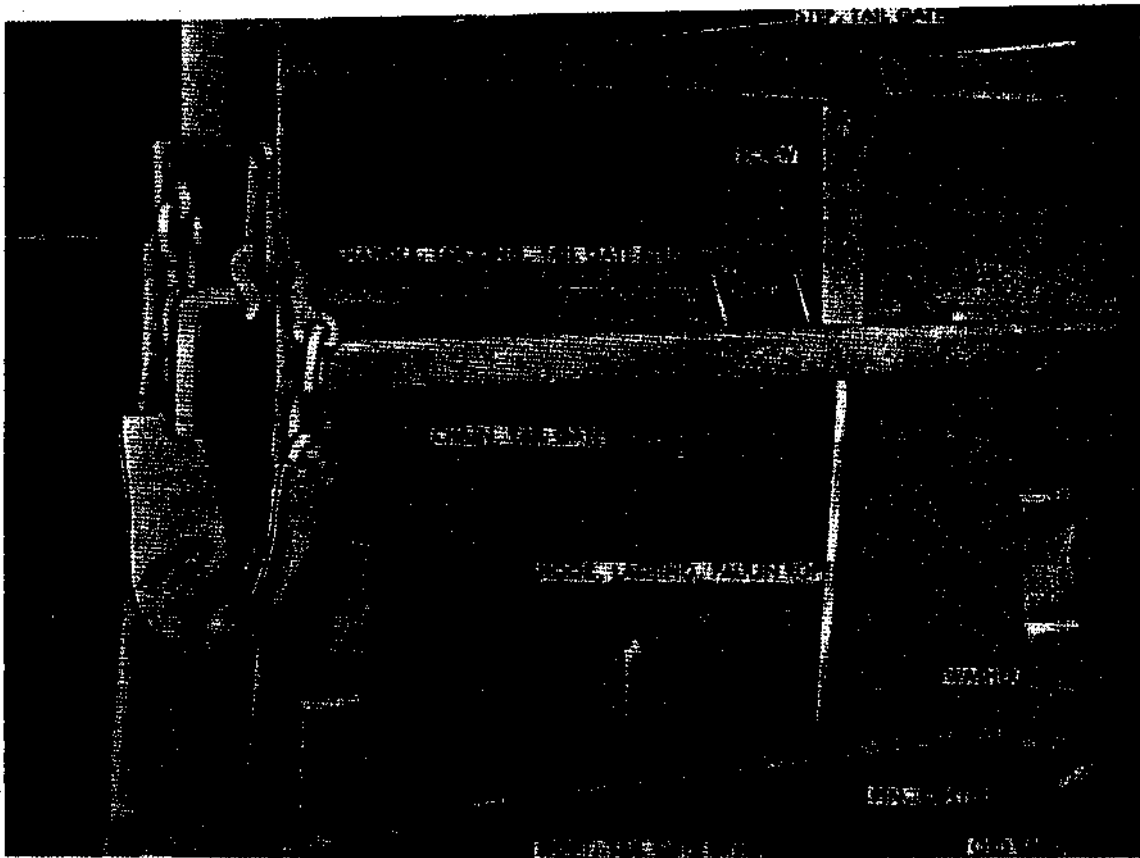

Figure 60. Tailgate assembly
e. Tailgate Assembly (Fig. 60). Unhook tailgate chains and remove eight cotter pins and washers from four tailgate hinge shafts. Support tailgate and remove tailgate hinge shafts. Remove two machine screws and safety nuts securing tailgate step hinge pins and remove pins and step.
f. Tailgate Assembly (Fig. 60). Support tailgate assembly on rear of body, and install